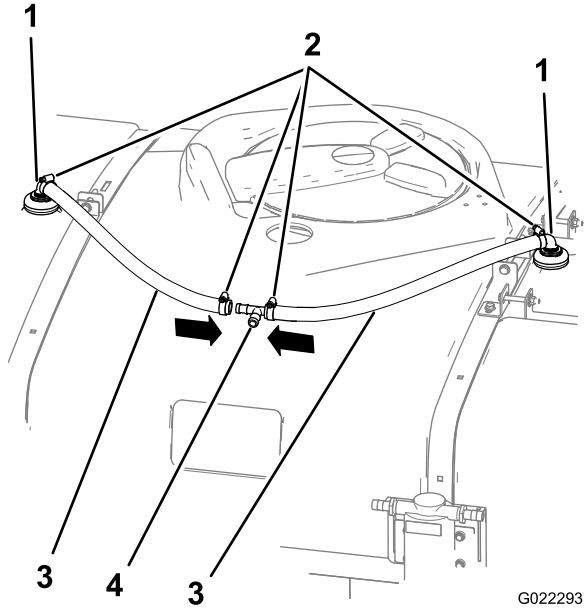

Figure 10
- 1. Attach a 61 cm (24 inch) hose to each of the previously installed 90° barbed fittings in the nozzle assemblies using 2 hose clamps (Figure 10).
- Attach the loose ends of the hoses to the T-fitting with 2 hose clamps (Figure 10).